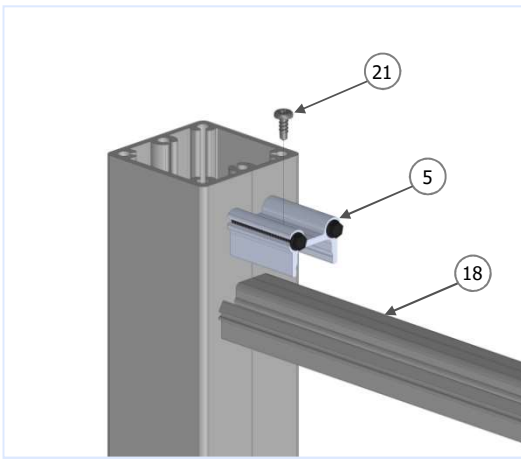

Fig 17
- Hand press the top rail (17) onto the top rail infill (18) until it snaps, with the etched mark on the lower right side shown in Figure 17.